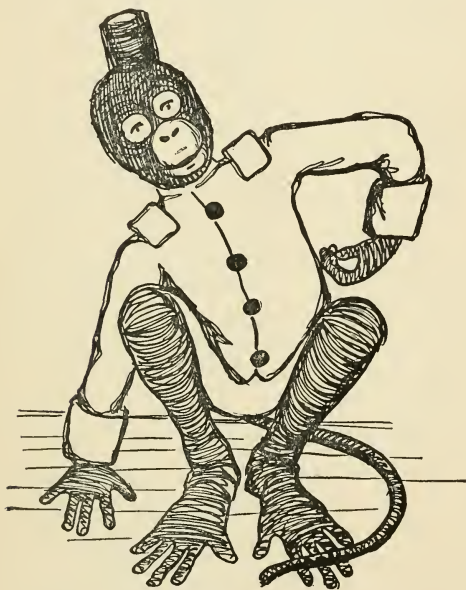
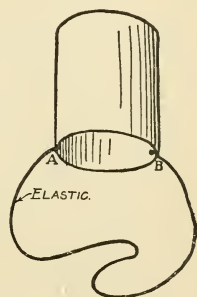

FIG. 283. — "Jocko."
FIG. 284. — Jocko's Hat.
**A Monkey's Make-up** is shown in Fig. 283. The boy who is most apt at making a monkey of himself should be selected to take the part of this animal. In the first place he requires a red suit, which may be made quickly by sewing red cloth over an old coat and a pair of trousers. Cover the legs with a pair of tan stockings, and slip the feet into a pair of large gloves. The face and hands should be colored, and for this purpose buy some brown grease paint. In rubbing the paint over the face, leave a circle of white around the eyes and mouth, and make a brown mark each side of the mouth to give it a broadened effect. A tight-fitting cap should be made of cloth as nearly the shade of the brown paint as possible, to hide the hair. Figure 284 shows the monkey's hat, consisting of a tomato-can covered with red cloth, which is fastened around the monkey's chin by means of an elastic cord.